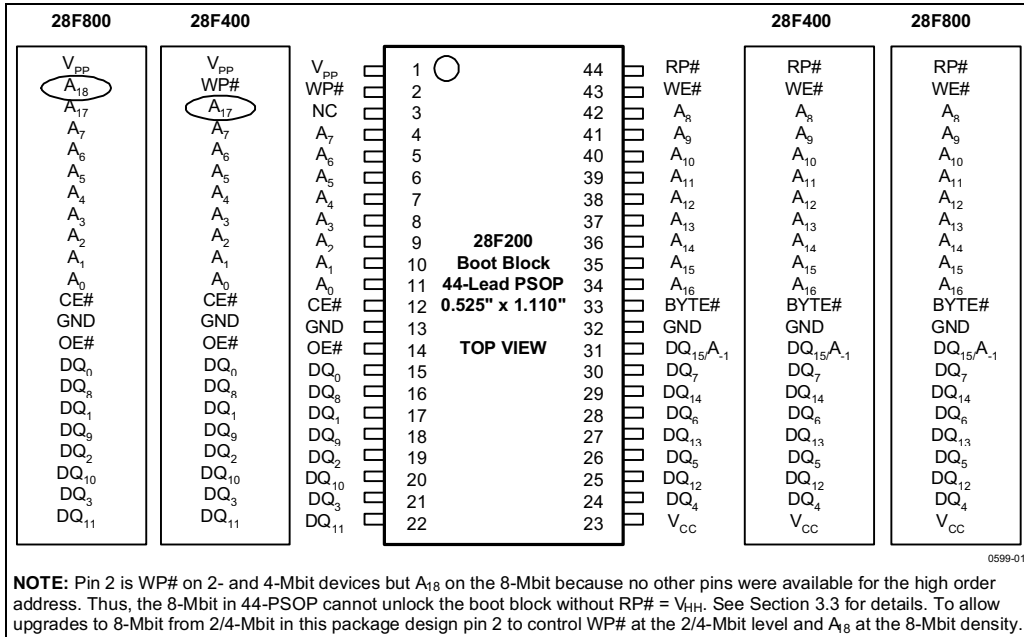
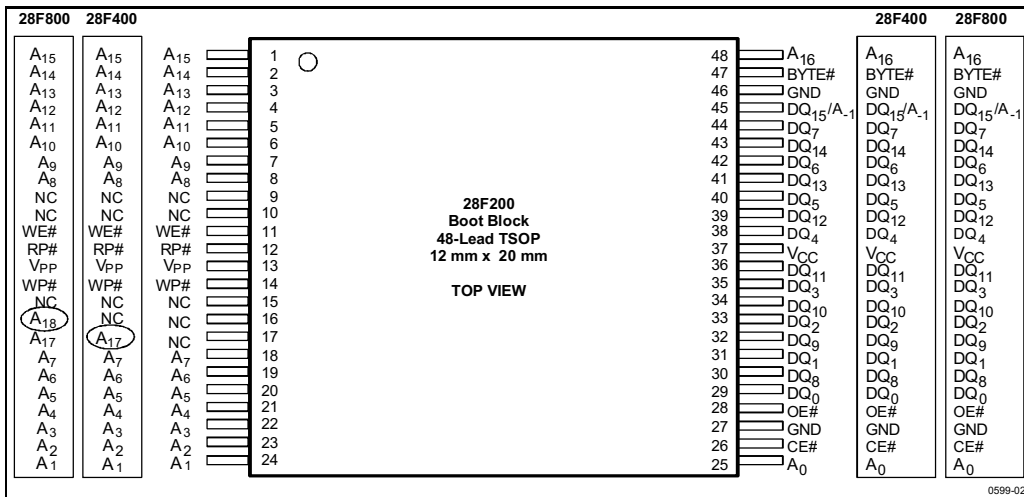

Figure 1. 44-Lead PSOP Pinout Diagram
Figure 2. 48-Lead TSOP Pinout Diagram
-002	Minor changes throughout document. Section 3.1.5 and Figure 14 redone to clarify program/erase operation abort. Information added to Table 2, Figure 1, and Section 3.3 to clarify WP# on 8-Mbit, 44-PSOP. Read and Write Waveforms changed to numbered format. Typical numbers removed from DC Characteristics and Erase/Program Timings.
-003	Minor text changes throughout document. Figure 1, 44-PSOP pinout: mistake on pin 3 on 2-Mbit pinout corrected from A 17 to NC. Specs $t_{EHQZ}$ and $t_{GHQZ}$ improved. Explanations of program/erase abort commands reworked in Table 6, Command Codes.
These 5 Volt Boot Block Flash memory products are available in the 44-lead PSOP (Plastic Small Outline Package), which is ROM/EPROM-compatible, and the 48-lead TSOP (Thin Small Outline Package, 1.2 mm thick) as shown in Figure 1, and 2, respectively.
Intel® 5 Volt Boot Block Flash architecture provides upgrade paths in each package pinout up to the 8-Mbit density. The 44-lead PSOP pinout follows the industry-standard ROM/EEPROM pinout, as shown in Figure 1. Designs with space concerns should consider the 48-lead pinout shown in Figure 2. Applications using an 8-bit bus can use the 40-lead TSOP, which is available for the 4-Mbit device only.